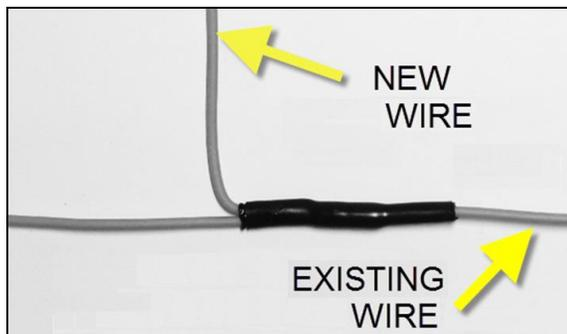

FIGURE 13
37. Seal the splicing with shrink tubing as shown in Figure 13.
45. Seal the splicing with shrink tubing as shown in Figure 13.